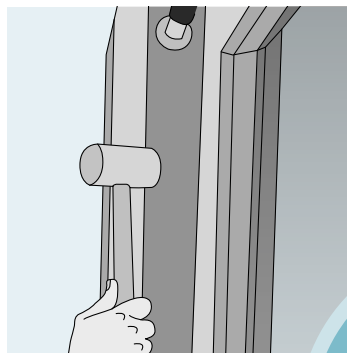

Figure 10
c. Finish the installation by gently tapping the aluminium part into place using a rubber mallet (figure 10).